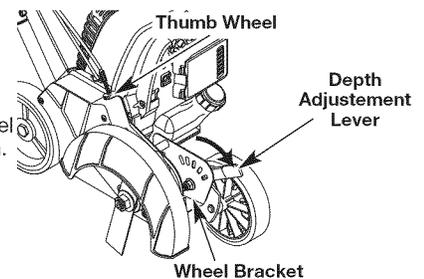

Fig. 14
- The edger wheel adjusted for proper cut depth as shown in Figure 14 and edger positioned as shown in Figure 13.
1. Grasp the depth adjustment lever located beside the front wheel (Fig 14).
2. To raise the cutting blade, move the lever toward the front of the wheel bracket (Fig. 14). Lowering the wheel decreases the cutting depth.
1. Locate small thumb wheel on top of the belt housing (Fig. 14).